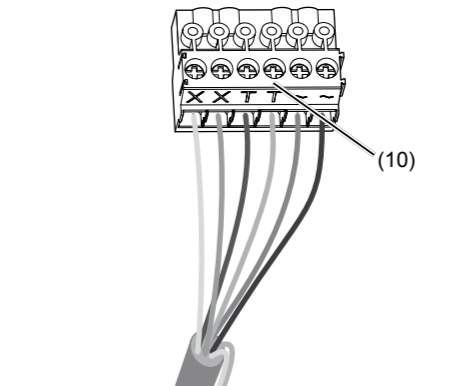

Figure 8: wired connection terminal block
- Pull off connection terminal block (10) from the audio insert.
- Connect the 2-wire bus cable to the terminals **XX** of the connection terminal block (Figure 8).
- Connect door release to the terminals **TT** of the connection terminal block (figure 8 and 9) if required.
- For call push-button backlighting and camera heating connect 12 V~ lead from the power transformer to the terminals ~ of the connection terminal block (Figure 8).